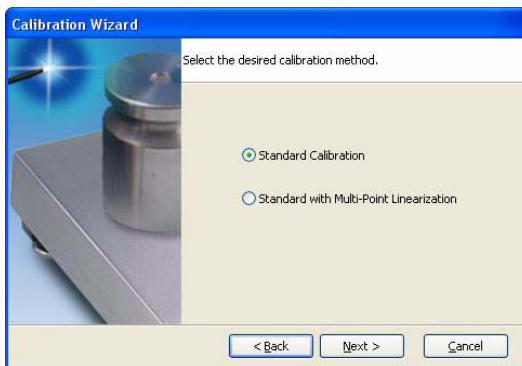

Figure 4-3. Revolution III Calibration Wizard Display
1. On the first Calibration Wizard display (see Figure 4-3), select whether you are performing a standard (zero and span) calibration or a multi-point linear calibration. Click the *Next* button to continue.